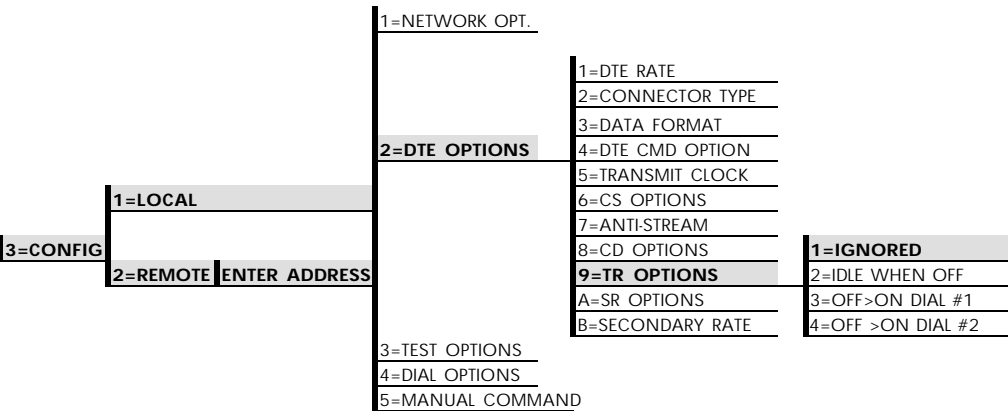

Figure 6-10
The TR OPTIONS menu is used to select the DSU III AR response to the data terminal ready (TR) lead. The factory default setting is IGNORED (see Figure 6-10).